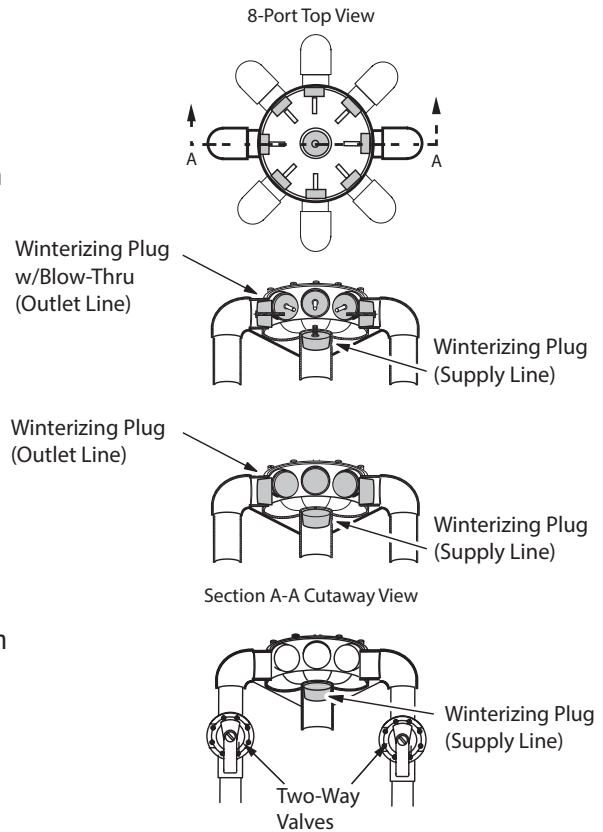

Figure 17. Expansion Plug with Blow Thru Valves
- **Expansion plug with blow-thru valves:** Place expansion plugs with blow-thru valves into each outlet port inside the valve. Use an air compressor with an air chuck at the valve to blow out the outlet lines. Blow each line until air can be seen coming from the line in the pool/spa floor (see Figure 17).
- **Backer Rod method:** Remove the 2" (5.1 cm) plugs from the tee plumbed on the eight (8) outlet lines of the valve. Place a 2" (5.1 cm) diameter section of Backer Rod (polyethylene foam) into each outlet line until it reaches the bottom of the plumbing line. (The plumbing line must extend a minimum of 24" (61 cm) below the freeze line.) Cut the foam level with the top of the tee fitting and thread the 2" (5.1 cm) plug halfway onto the fitting.